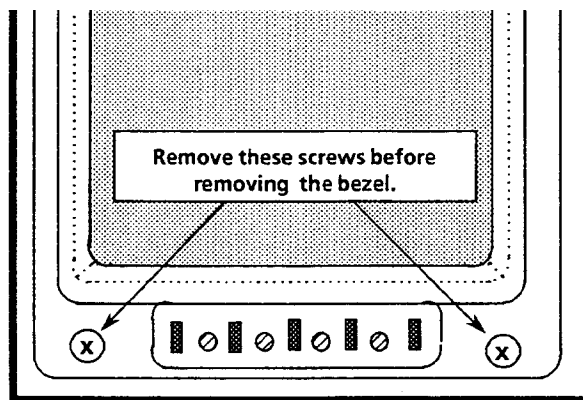

Figure 8-17: Bezel screws
1. Remove the two bezel screws. See Figure 8-17.